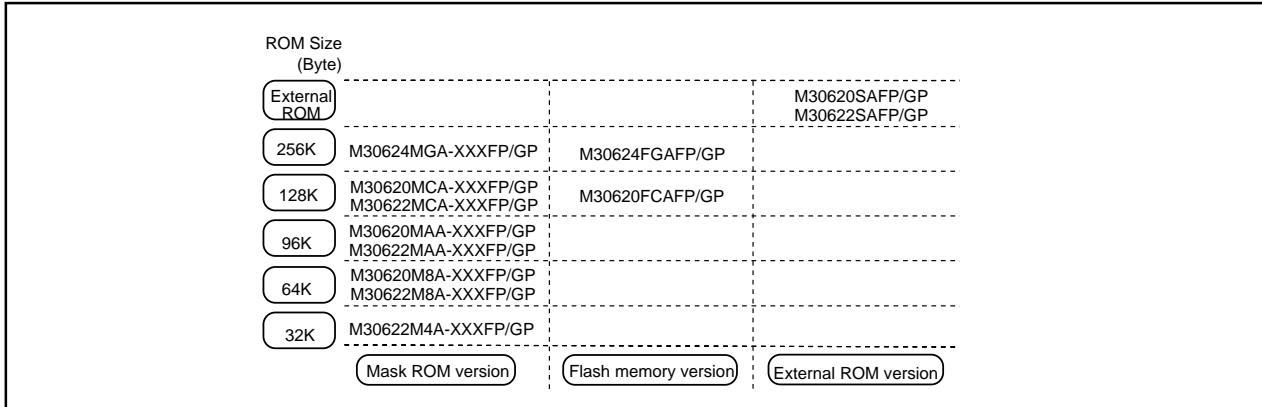

Figure 1.1.4. ROM expansion
- Memory capacityROM (See Figure 1.1.4. ROM Expansion)